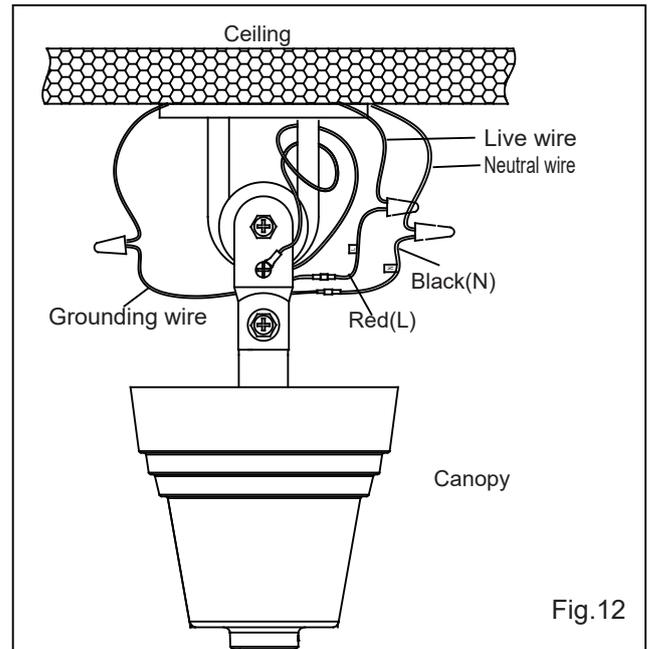
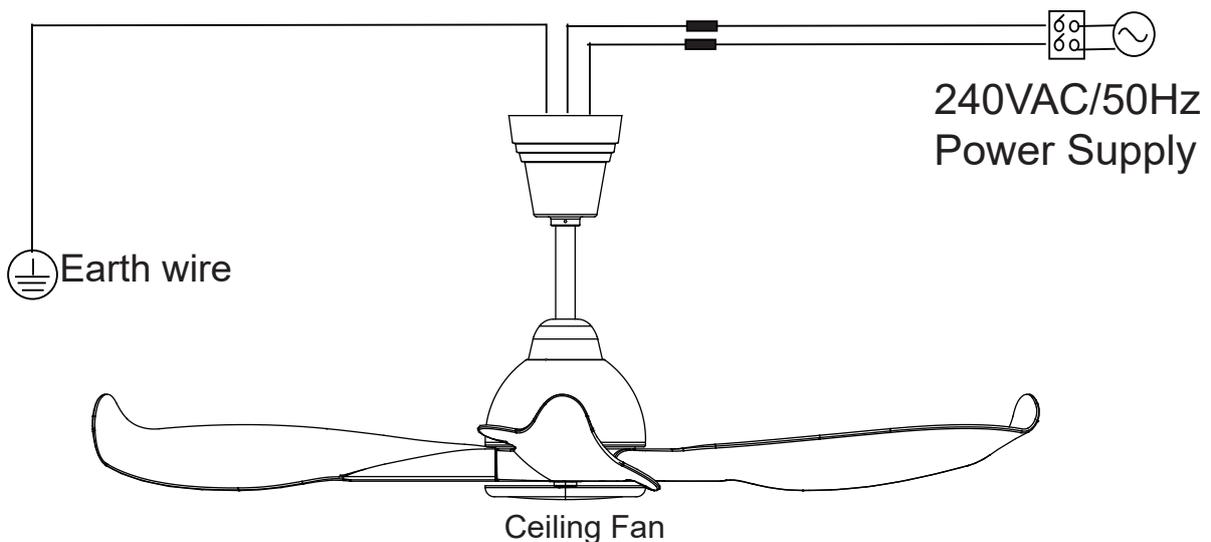

Fig.12
Fig.13
4. Connect the fan wire to the house's supply wire. Diagram shows a complete assembly of the ceiling fan. (Fig.12 & Fig.13)